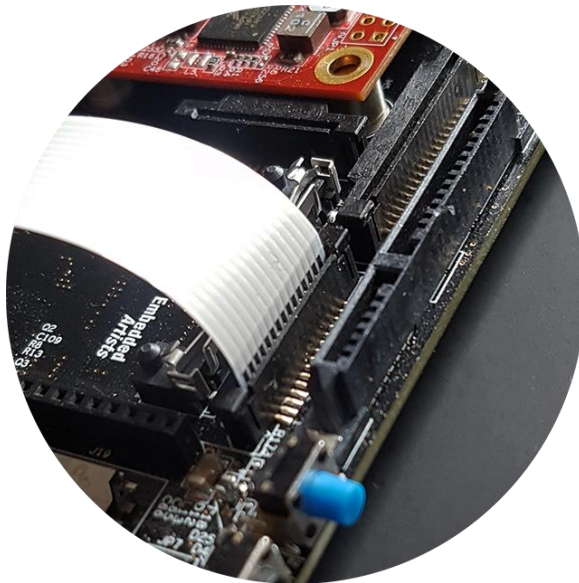
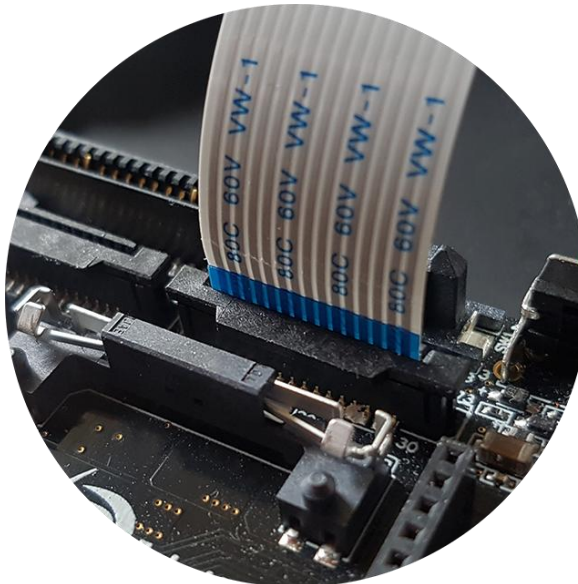

Figure 4 - Cable inserted into J20 (back)
Figure 5 - Cable inserted into J20 (front)
1. Connect the camera to the J20 connector as shown in Figure 4 and Figure 5. The exposed pads on the cable shall be mounted towards the nearby PCB edge. Figure 4 illustrates the exposed pads. Figure 5 illustrates the side of the cable without exposed pads.